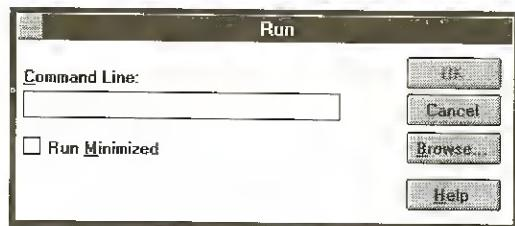

Figure 3-1: The Run dialog box.
- In Program Manager, select Run from the File menu. The dialog box in Figure 3-1 appears.